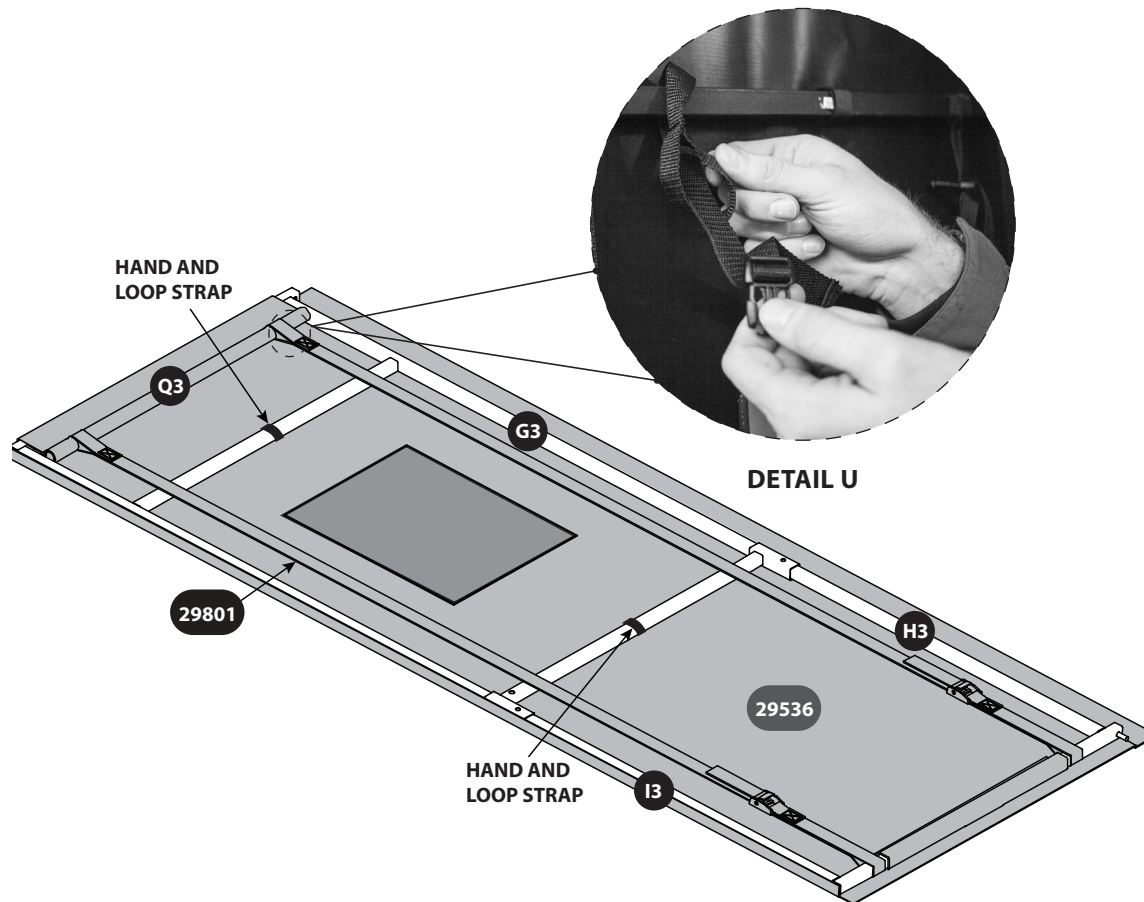

FIGURE 15
43. Secure the door panel to the frame with the two hook and loop straps on the interior of the blind as shown in **FIGURE 15**.